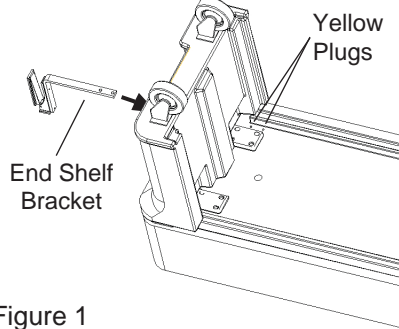

Figure 1
Step 2: Remove the four yellow plugs on the bottom of the basin at the end where the end shelf will be attached (see Figure 1).
Step 3: Slide End Shelf Bracket through hole between leg and basin on end of food bar (see Figure 1).